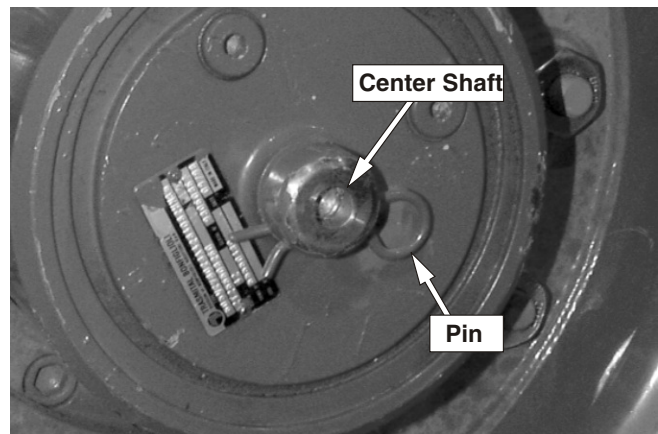

Figure 11.8—Drive Wheel
8. At each drive wheel, remove the pin, push the center shaft in and replace the pin (refer to Figure 11.8).